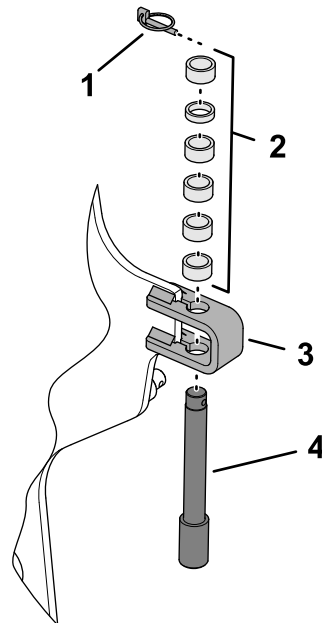

Figure 125
3. Remove the lynch pin that secures the depth-stop pin and spacers to the stop bracket (Figure 125).